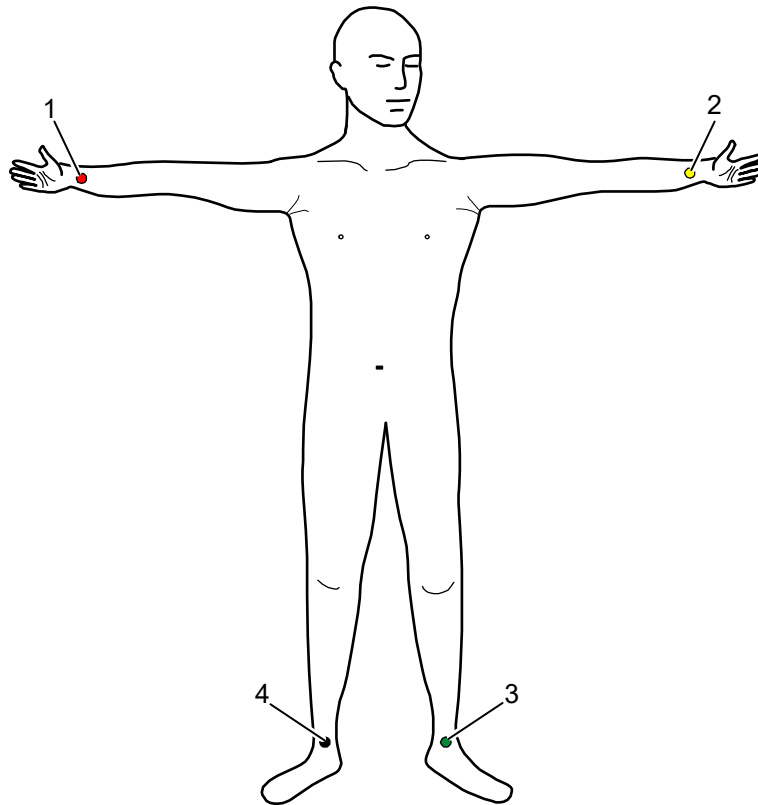

Fig. 6-8 Diagnostic ECG, applying the ECG electrodes (1)
- Red ECG electrode: right arm (Fig. 6-8, item 1)
- Yellow ECG electrode: left arm (Fig. 6-8, item 2)
- Green ECG electrode: left leg (Fig. 6-8, item 3)
- Black ECG electrode: right leg (Fig. 6-8, item 4)